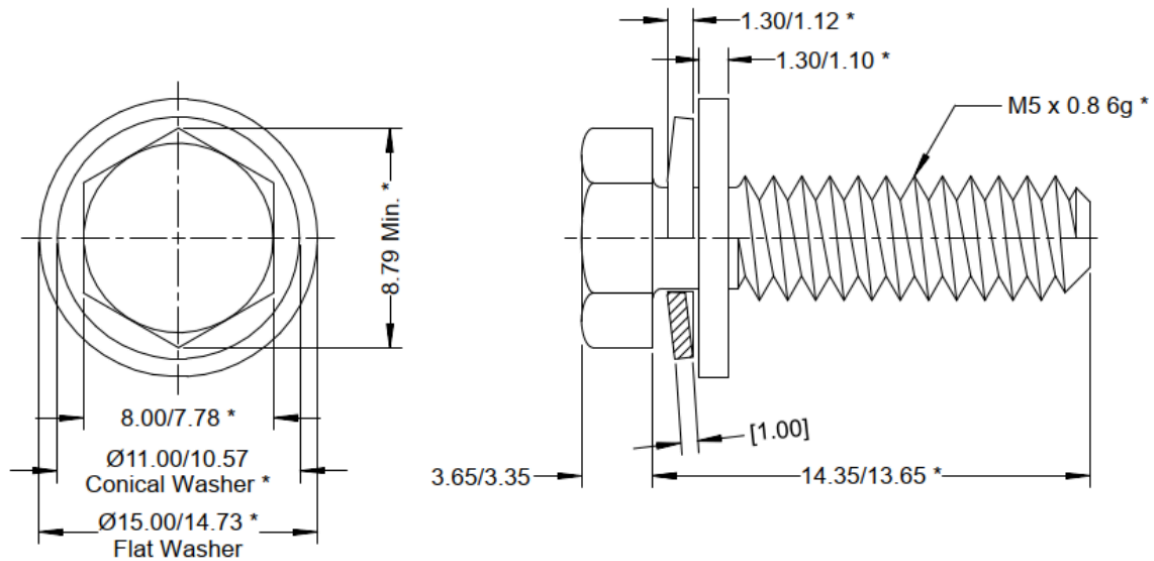

Figure 5: Recommended Power Shelf Bolt Dimensions
- Known bolt part numbers meeting the specified requirements are as follows (see Figure 5 for visual representation):